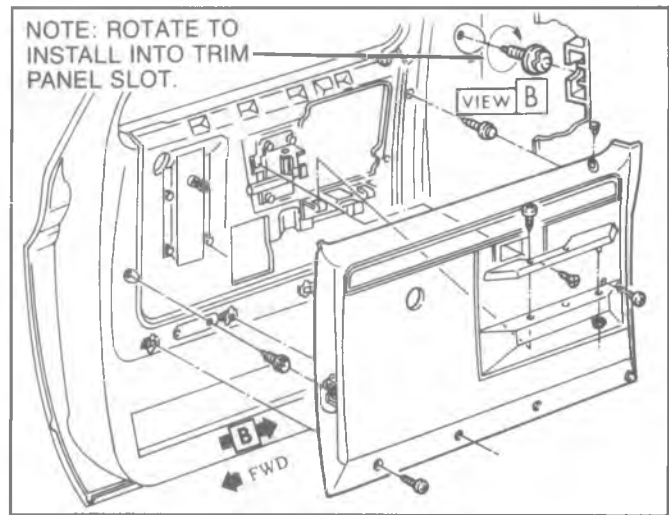

Fig. 2D-27--Door Trim Pad
3. Remove arm rest screws and trim panel. See figure 2D-27.